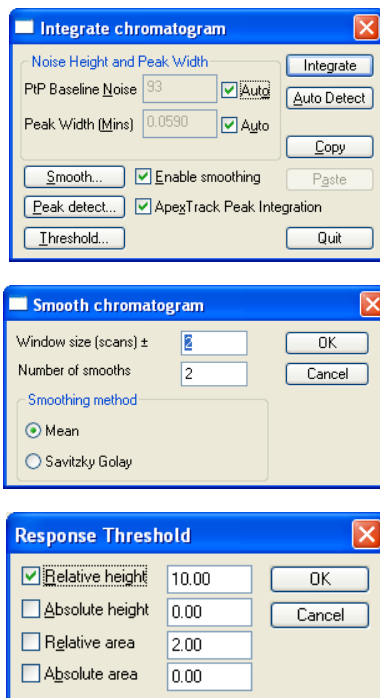

Figure 35 - Integration parameters
12. In the Chromatogram browser, click **Process > Integrate...** and specify the parameters as shown in Figure 35.